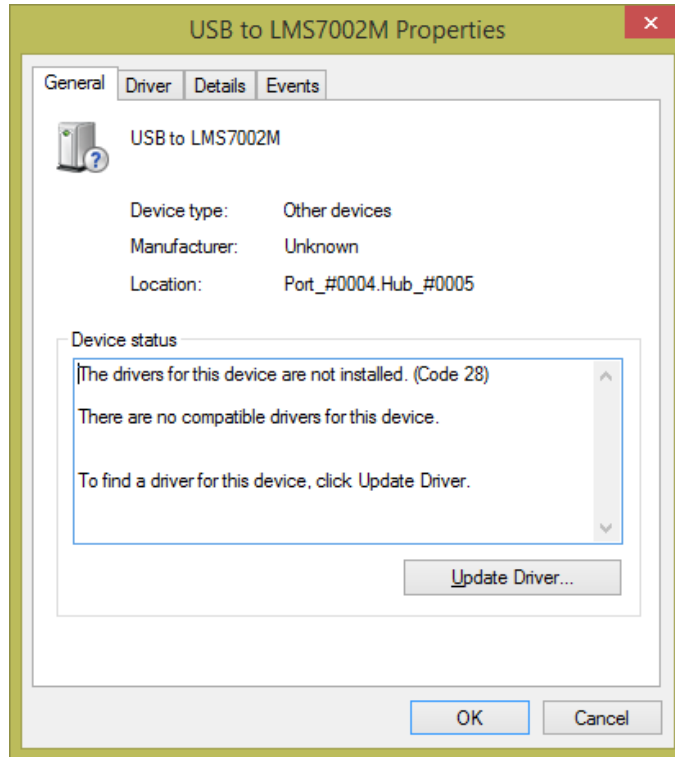

Figure 4 Device properties
4. When a new window pops-up press Update driver *Figure 4*